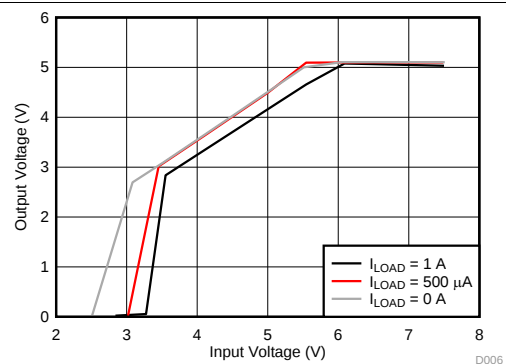

Figure 5. Output Voltage vs Input Voltage for Different Load Currents ⁽¹⁾
(1) Figure 5 shows the dropout operation during low input conditions.